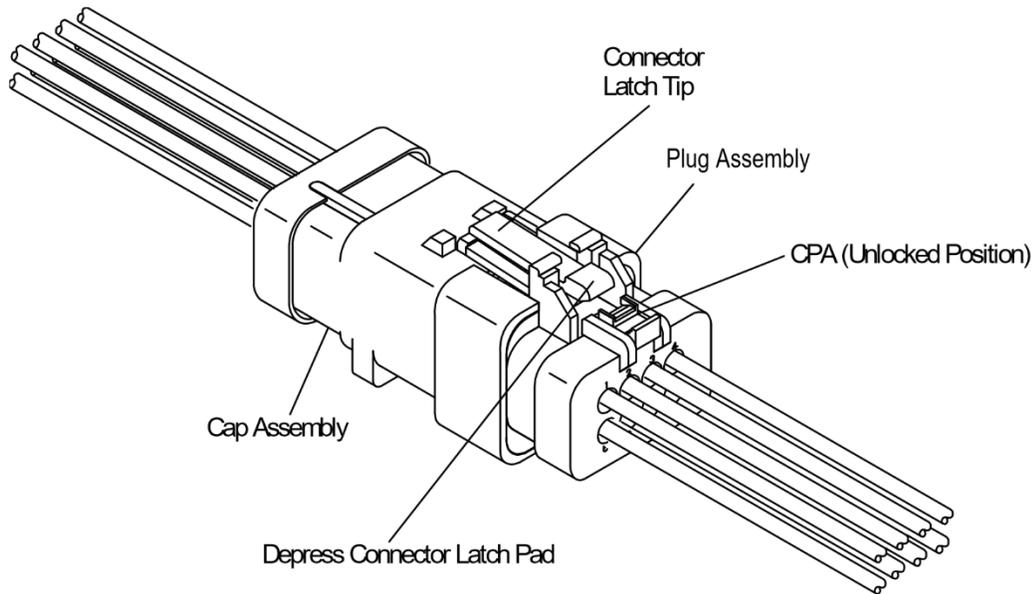

Figure 11
Damaged or misplaced contacts can be replaced on an individual basis. Refer to Figure 11 and separate the connector and remove the contact by the following procedures:
1. Slide the CPA toward the rear (wire end) of the cap housing assembly to reveal the connector latch tip. See Figure 11.